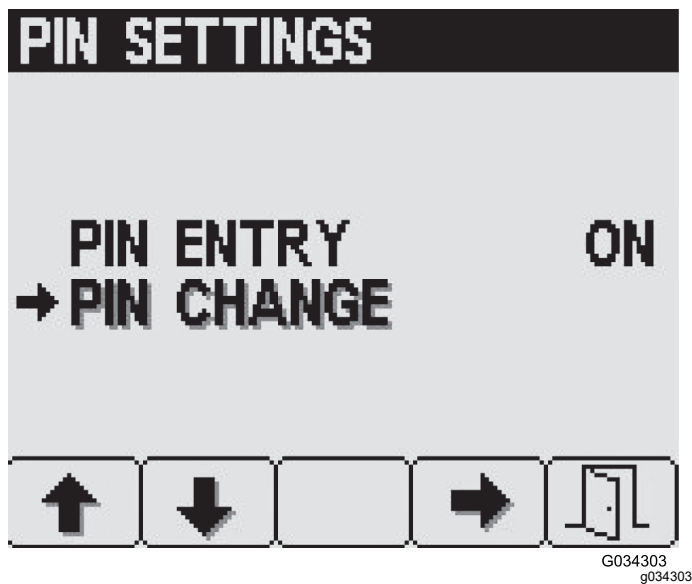

Figure 26
1. Press buttons 1 or 2 to select the PIN CHANGE option (Figure 26).
2. Press button 4 to select the PIN CHANGE entry (Figure 26).